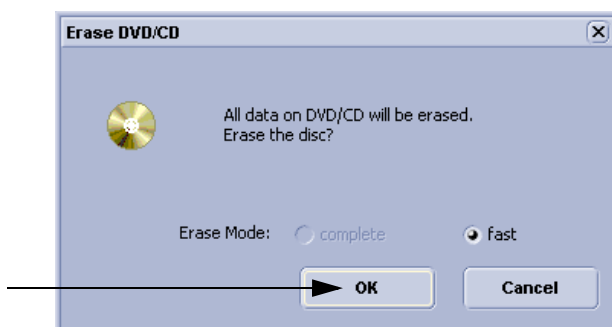

Figure 4-21 Erase DVD/CD Window
- 4.) Click the **ERASE CD** button to displays the “Erase DVD/CD” window as shown in Figure 4-21.